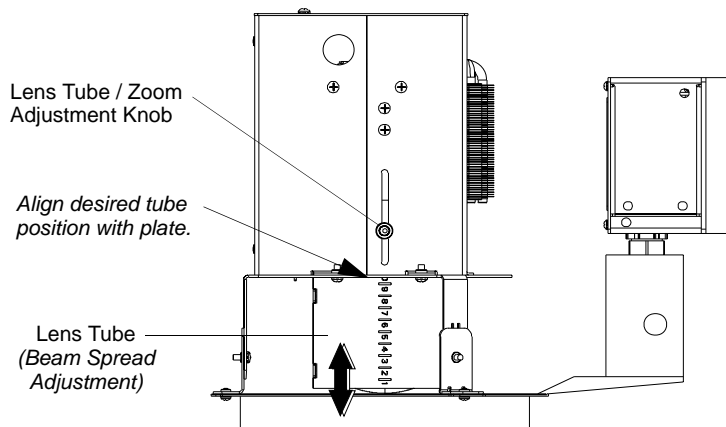

Figure 8: Lens Tube (Beam Spread Adjustment) Setting
Step 5. As shown in **Figure 8**, adjust luminaire beam spread as desired by loosening the lens tube / zoom adjustment knob and moving lens tube in or out. Once adjustment is complete, retighten lens tube / zoom adjustment knob. Note, beam spread can be adjusted at anytime throughout the installation process and after-installation as desired.